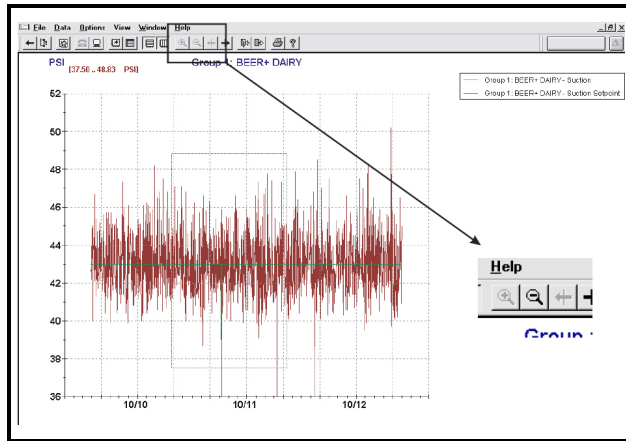

Figure 6-6 Graph View with Magnification Box Drawn; Zoom Out Button
4. To back out of the zoomed image, click on the zoom out icon (the magnifying glass with a minus symbol inside **Figure 6-6**).